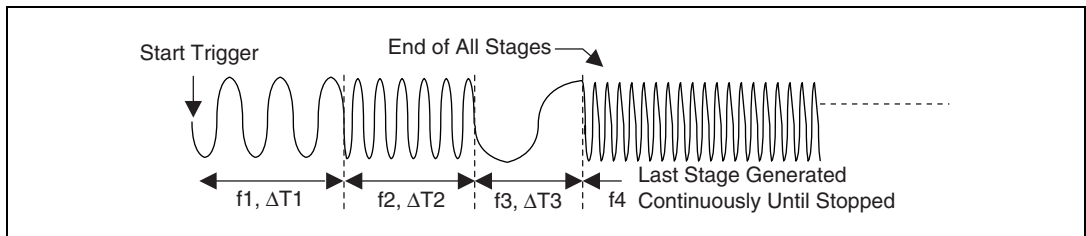

Figure 2-9. Single Trigger Mode for DDS Mode
- **DDS mode**—After the NI 5411/5431 receives a trigger, the waveform generation starts at the first stage and continues through the last stage. The last stage is generated repeatedly until you stop the waveform generation. Figure 2-9 illustrates a single trigger mode of operation for DDS waveform generation mode.